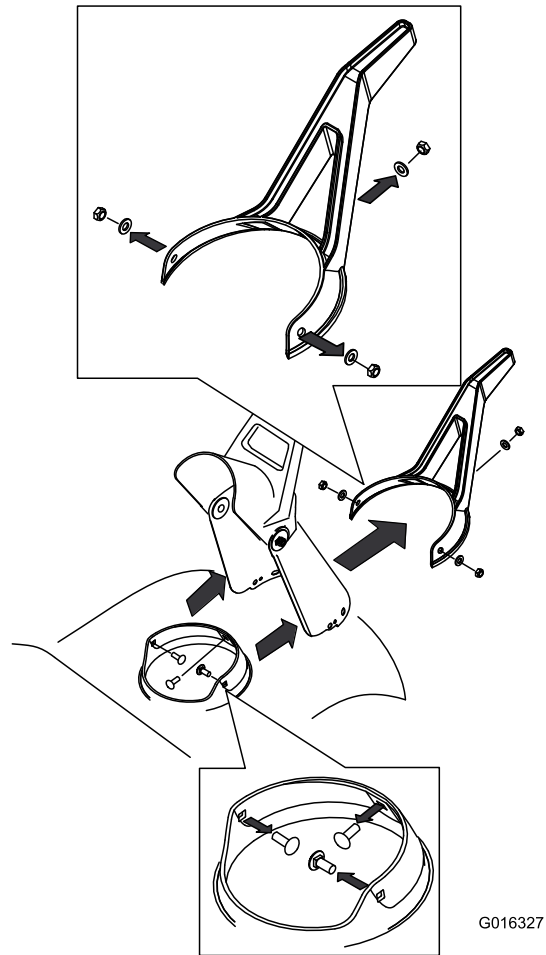

Figure 31
3. Remove the discharge chute by removing the three screws holding the chute, and the screws holding the chute seal (Figure 31).